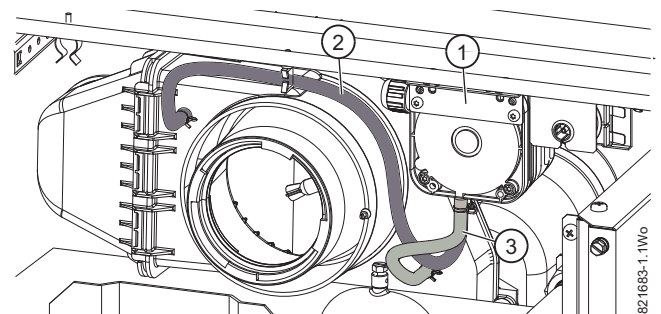

Fig. 73 Sensing tube connections
- ▶ Ensure that the sensing tubes are connected correctly, refer to figure 73